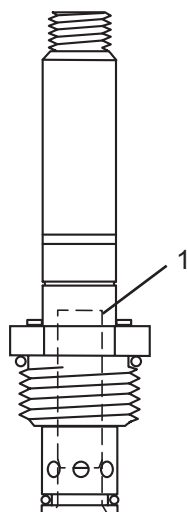

Figure 46
3. Remove the cartridge from the valve for cleaning. The cartridge can be cleaned with WD-40 or an equivalent product. If you shake the cartridge, the center spool (Figure 46, Item 1) in it should move freely and rattle. If the center spool sticks or binds, the cartridge must be replaced.